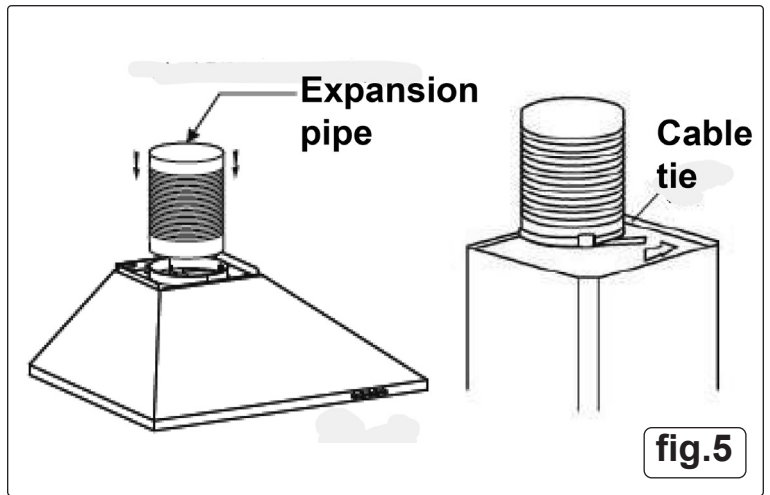

fig.5
- Install the expansion pipe to the outlet and fix it by cable tie. See fig.5.